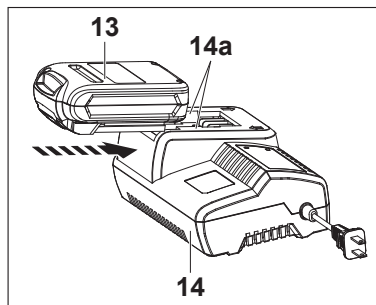

Fig. 4
1. Align and slide the battery pack (13) onto the sliding slots (14a) of the charger (14) until it locks in place (Fig. 4).